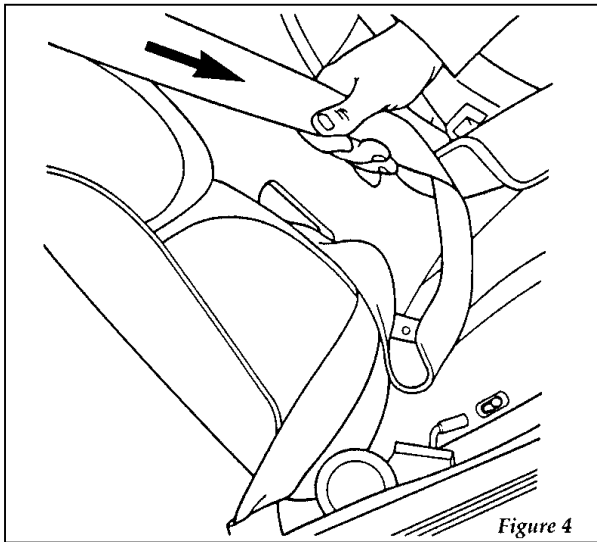

Figure 4
4. Grasp the shoulder portion of the belt and pull downward until all of the belt is extracted and a click is heard. At this time, the retractor is in the automatic locking mode (child seat restraint mode). See Figure 4.